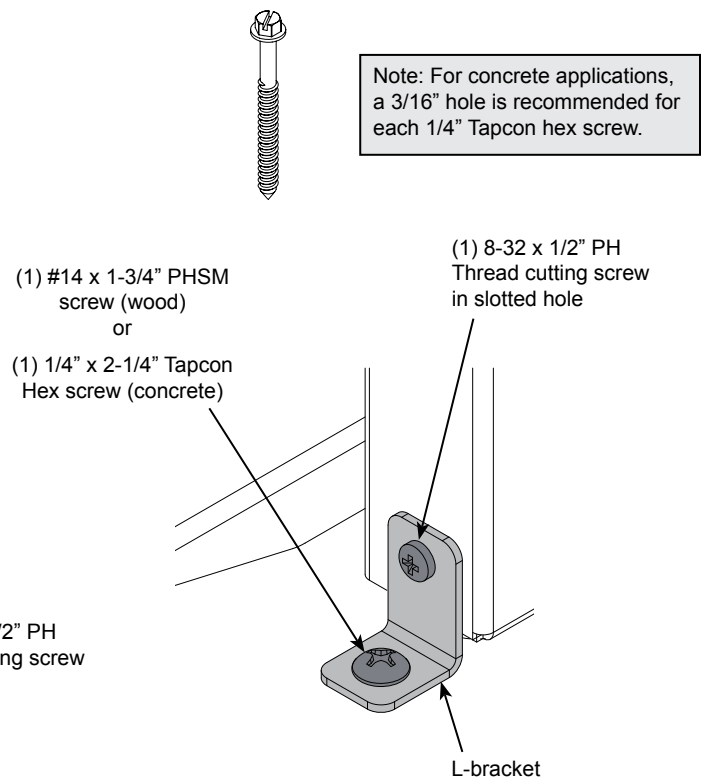

Figure 2.2
5. Install wood or concrete screws. **Figure 2.2.**